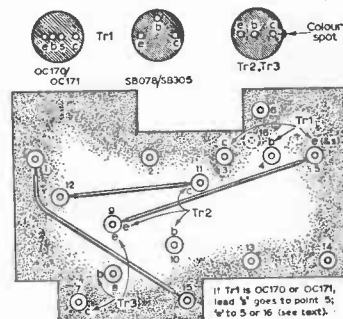

Fig. 4. The positions of the connecting wires, and details of the bases of the transistors.
It is important that these connecting wires should be in close contact with the board and be passed under the components since, in this position, accidental breakage during handling is much less likely to occur. Fig. 4 shows the three connecting wires in position.
The three transistors are connected as shown in Fig. 4. Note that the emitters of both the a.f. transistors share a common junction-point (9). The leads of the transistors should not be shortened, but all of the wires curved gently